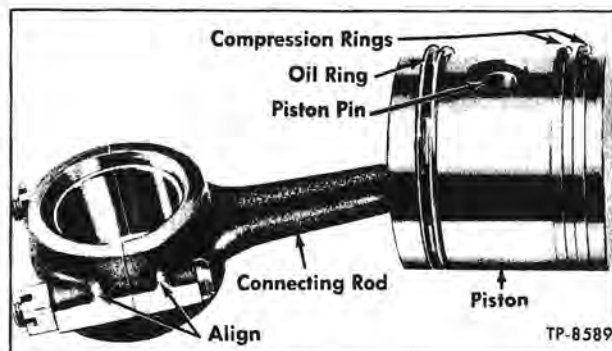

Figure 8—Piston and Connecting Rod Assembly
3. Install compression and oil rings on pistons. Three rings are used on each piston, two compression rings at top and one ventilated oil ring at bottom (fig. 8).
3. Turn the assembly over and position connecting rods on crankshaft journals, making sure bearing halves are in place. Install connecting rod bearing caps and bearing halves, matching bearing cap and rod as shown in figure 8. Install nuts on connecting rod bolts. Tighten to 5 to 8 foot-pounds torque and secure with new cotter pins.